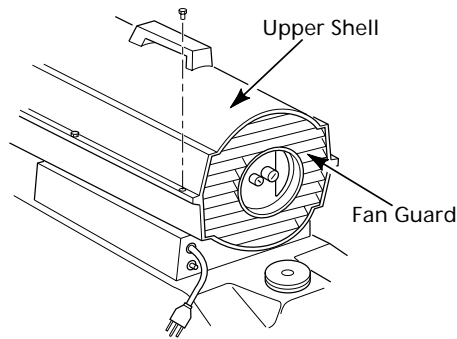

Figure 9 - Upper Shell Removal, Models 2E510D and 2E511D
1. Remove screws along each side of heater using 5/16" nut-driver. These screws attach upper and lower shells together (see Figures 9 and 10).